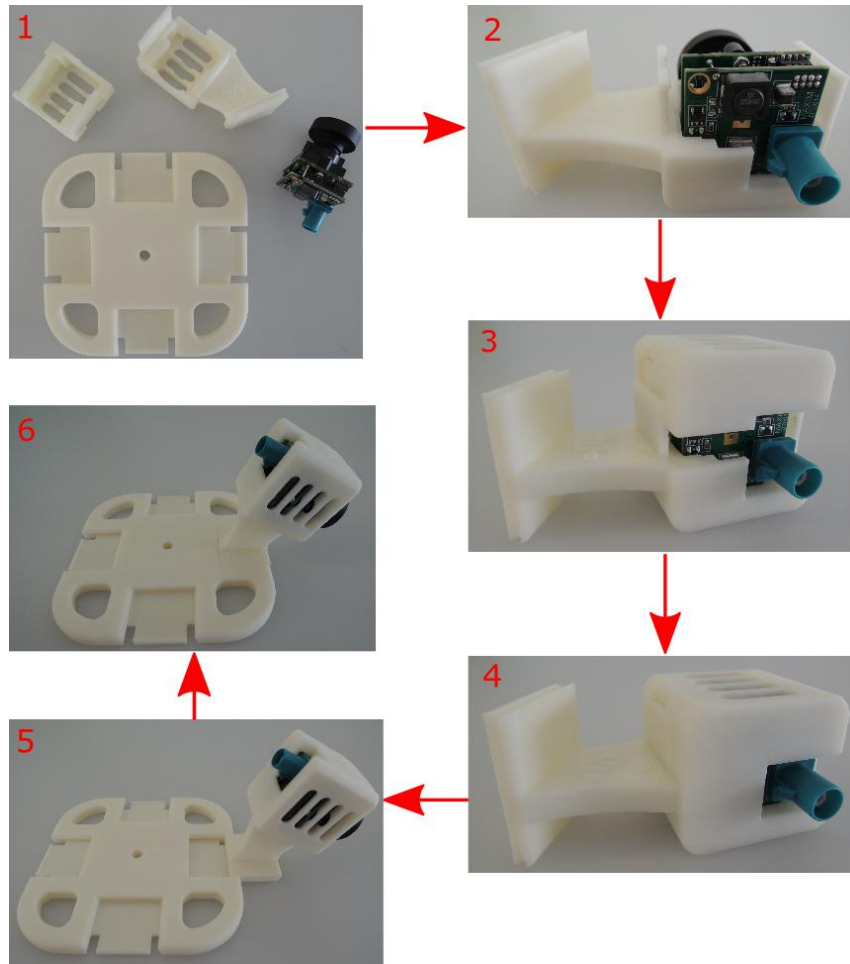

Figure 2. Camera stand arrangement
- Place the camera module to the bigger camera enclosure part with clips, plug in the smaller enclosure part, and click both camera covers (left + right). Finally, plug each camera module to the camera stand. See Figure 2.